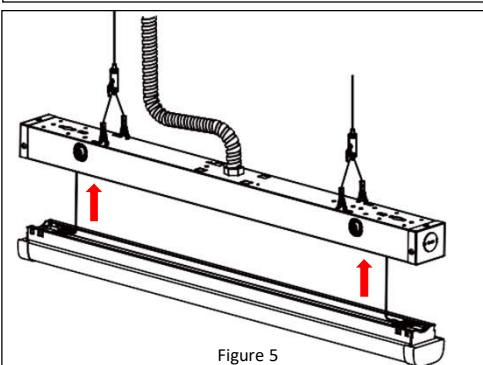

Figure 5
10. Close the fixture carefully by pushing the lens into the body making sure not to pinch any wires. *See Figure 5.*